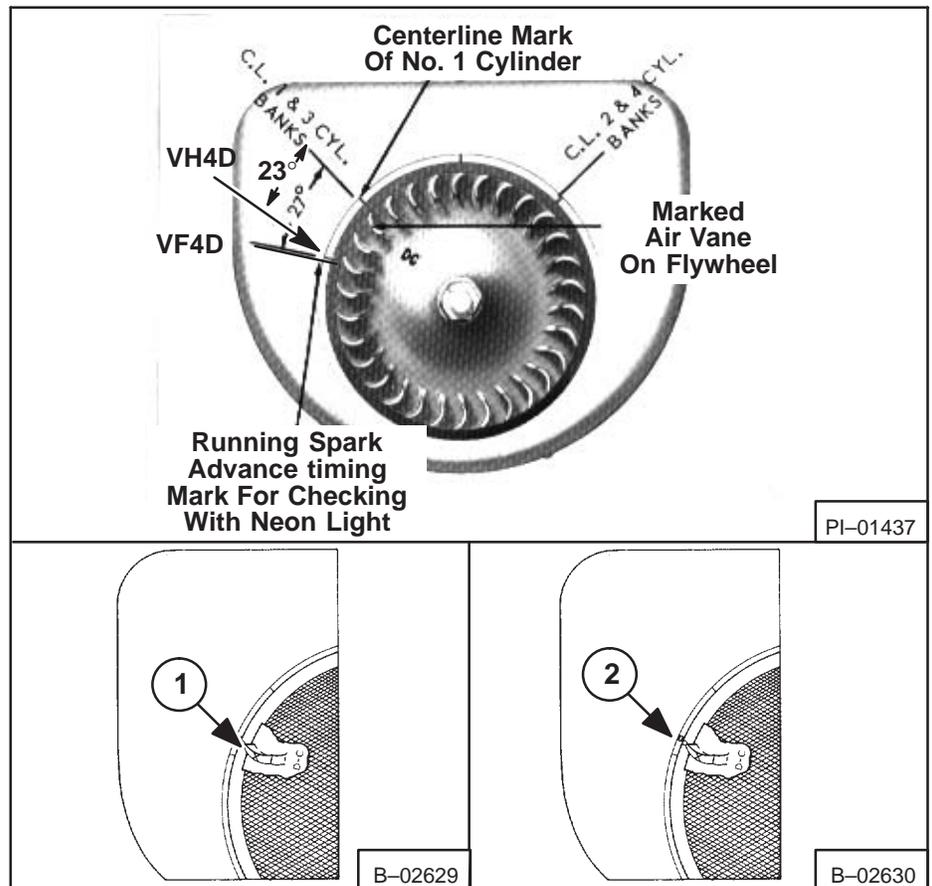

Fig. 1-27 Ignition Timing
Find the timing notch on air screen of flywheel and make sure it is positioned in line with the large DC letters on flywheel, behind screen (Fig. 1-27).
- a. VF4D engine (Model 600 Bobcat) is timed at 27° before dead center. Check to see that timing notch is in line with the timing mark on flywheel housing (Fig. 1-27, Item 1).
- b. VH4D engine (Model 610 Bobcat) is timed at 23° before dead center. Check to see that timing notch is in line with the lower half of the timing hole in flywheel housing (Fig. 1-27, Item 2).